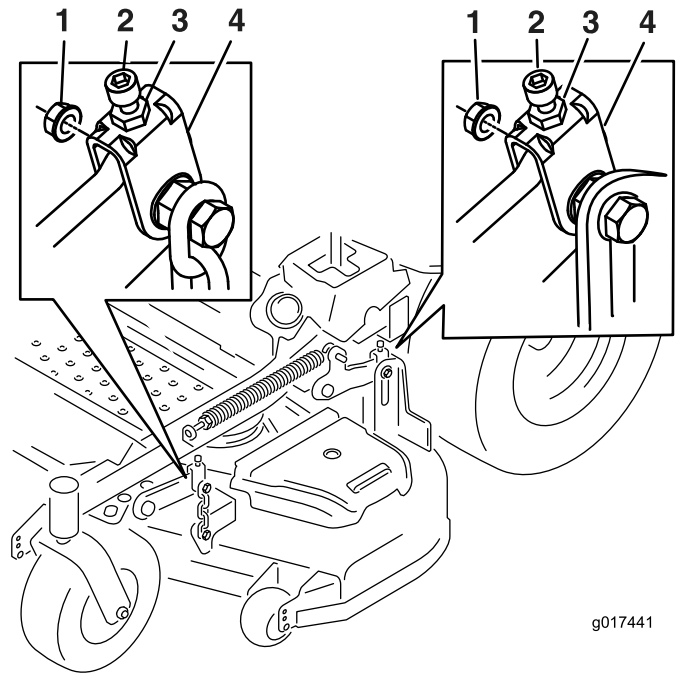

Figure 73
10. If needed, loosen the whizlock nut on the side of the yoke and the jam nut on top. Fine tune the screw adjuster by turning it to get 7.6 mm (3 inch) height (see Figure 73).
16. Fine tune the screw adjuster by turning it to get 8.3 mm (3-1/4 inches) height (Figure 73).